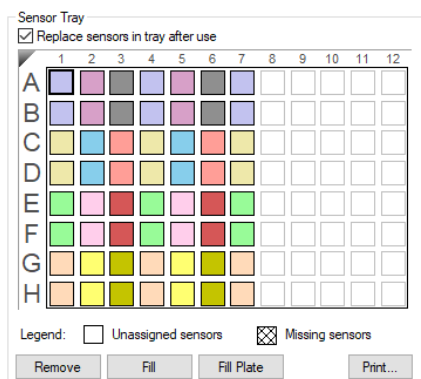

Figure 5-33: Replace Sensors in Tray After Use Check Box
- Optional for the Octet[®] R2, Octet[®] R4, or Octet[®] K2 instrument only: After an assay is completed, the biosensors can be returned to the biosensor tray or ejected through the biosensor chute to an appropriate waste container. To return the biosensors to the tray, click the **Replace sensors in tray after use** check box (see Figure 5-33).